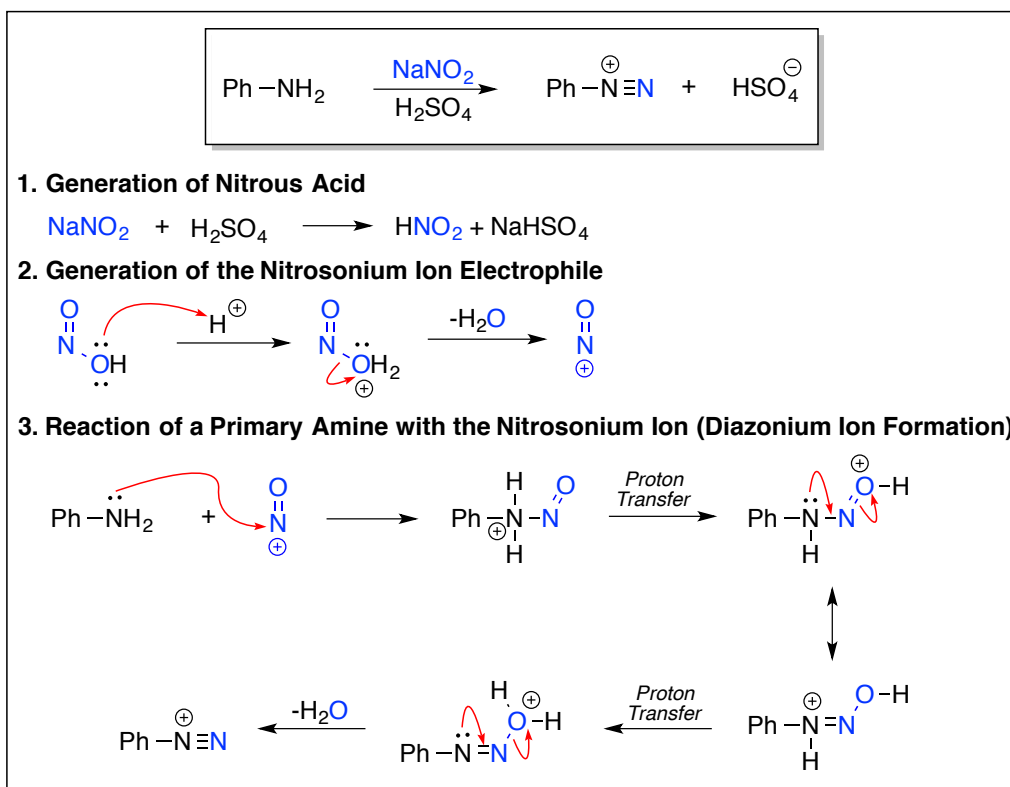

Figure 2. Mechanism for Diazonium Ion Formation
Diazonium ion formation begins by mixing sodium nitrite ($NaNO_2$) with a strong acid such as sulfuric acid (H_2SO_4). This results in the *in situ* generation of nitrous acid, HNO_2 (Step 1, Figure 2). Next, as shown in figure 2, step 2, the nitrous acid is protonated followed by the loss of water to form the nitrosonium ion, which is a very powerful electrophile. The nitrosonium then adds to the amine as shown in figure 2, step 3. After several steps, water is lost and the aryldiazonium ion is formed.
3. Secondary amines cannot be converted to diazonium ions. Using the mechanism shown in figure 2 as a guide, show the reaction of dimethylamine with the nitrosonium ion. Where in the mechanism does the reaction stop? Show this product and the mechanistic steps leading up to it.